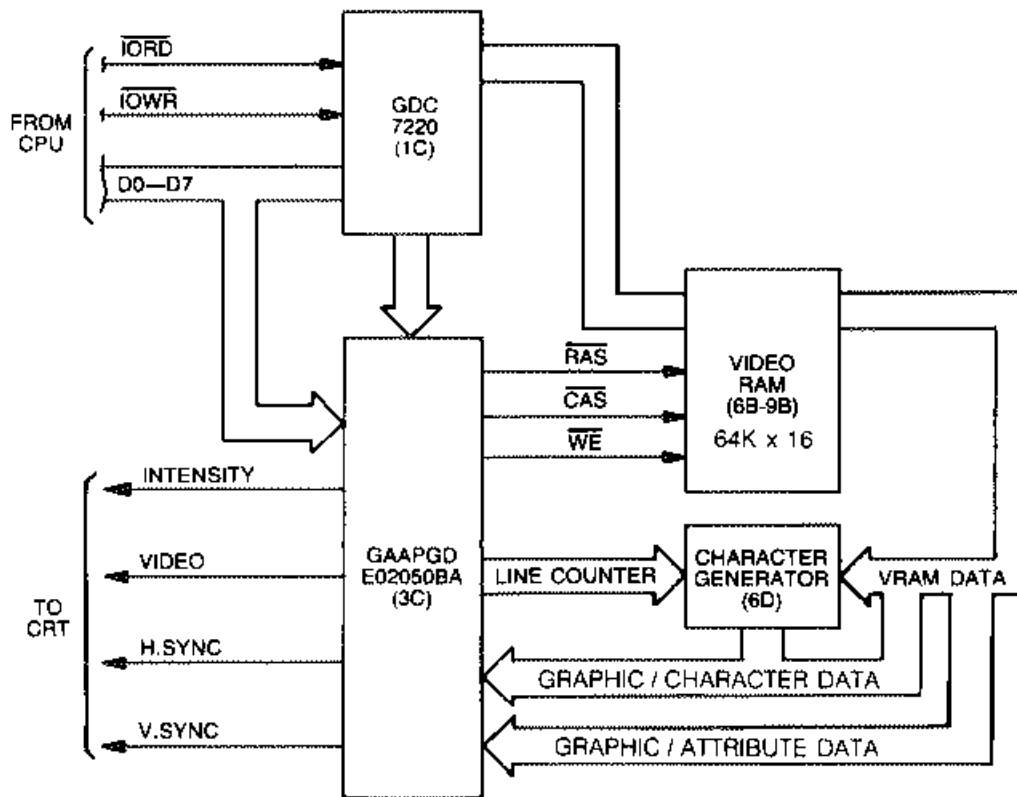

FIGURE 2-72. APX-IGGS BLOCK DIAGRAM
2.4.1 APX-IGGS Overview (Figure 2-72)